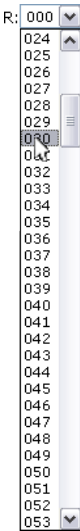

Figure 6-16 — Set Logo Recall slider
- 4. Watch the logo on the connected output device while you drag the slider up and down (figure 6-16) to key out unwanted material, such as the background, from the logo.